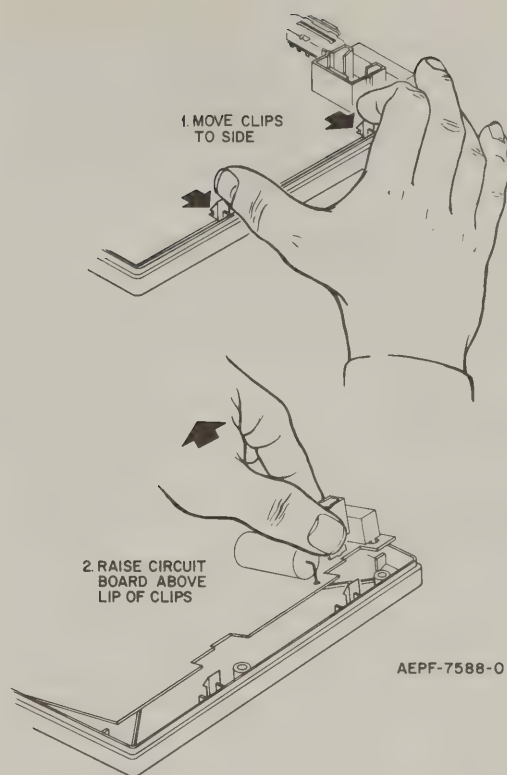

Figure 22. Main Circuit Board Removal
(1) The main circuit board is held in place by four plastic clips. Refer to Figure 22 and follow the steps illustrated for all four circuit board clips.